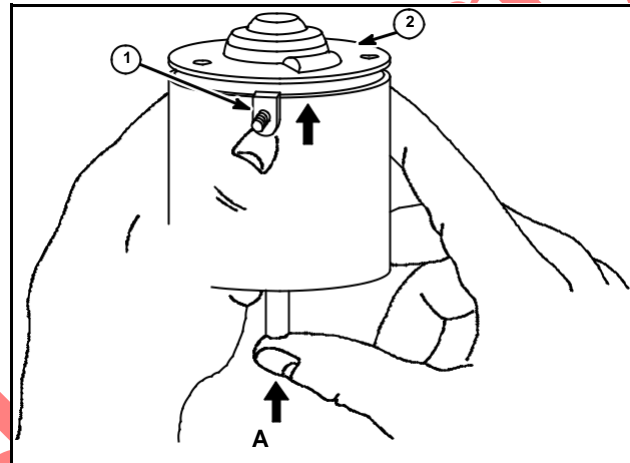

Fig. 51
2. Remove armature and end cap (2) by pushing up on armature shaft (A) as shown in Fig. 51.